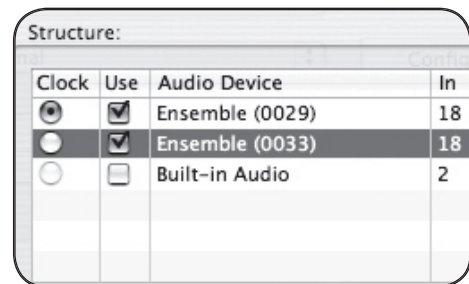

figure 21
c. In the Structure window, verify that all connected Ensembles appear; in the Use column, check the Ensembles to be used in the Aggregate Device. Click **Done** when you're, uh, done. (figure 21)